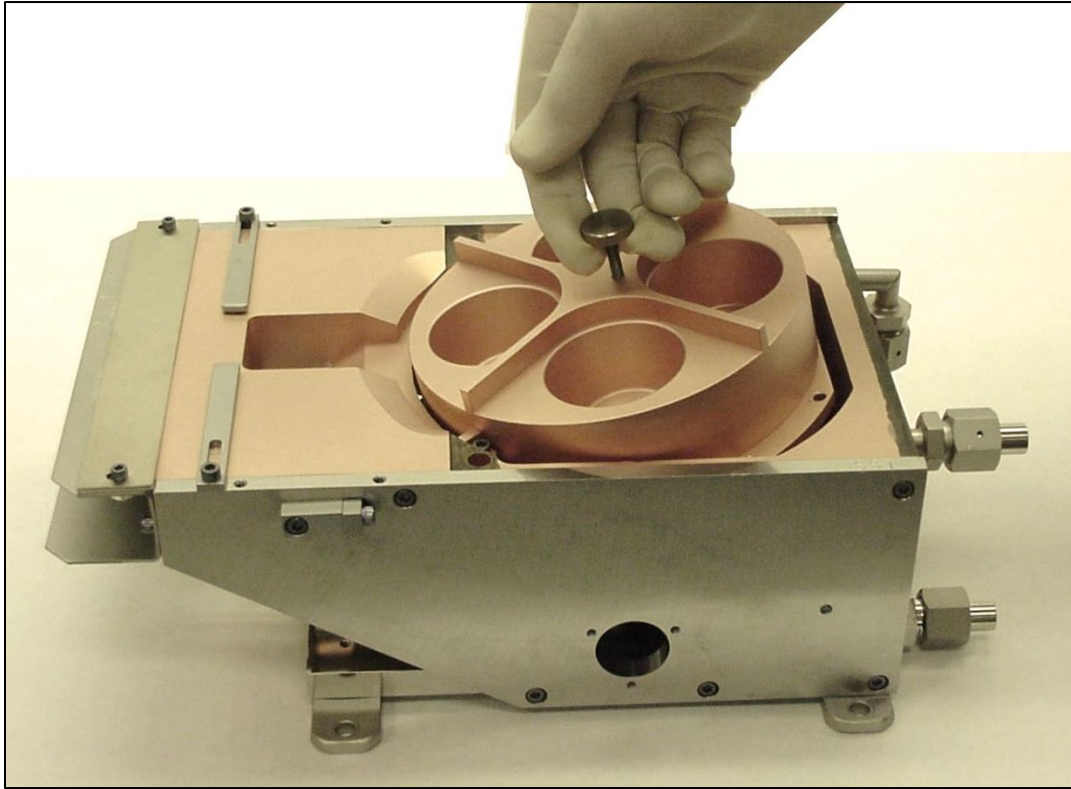

Figure 3-8. Removing the Crucible from the Source. Note angle of withdrawal
- (c) Pull the crucible clear of the coil housing by angling it upward and backward at the same time, as shown in Figure 3-8. Be very careful at this point not to scrape the crucible's O-ring-sealing surface on the water baffle.
| 2 | Angle the crucible into the position shown in Figure 3-8. Then lower its rear end so that its bottom surface is horizontal, and lower it straight down onto the O-ring. |